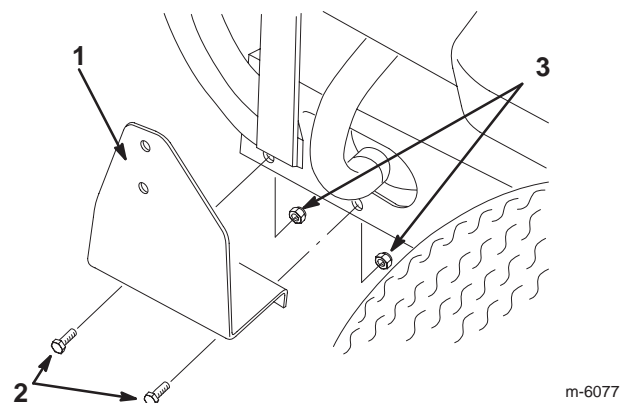

Figure 2
- Attach the bagger support bracket to the holes on the bottom of the machine frame using 2 bolts (5/16 x 1 in.) and locknuts (5/16 in.) (Fig. 2).